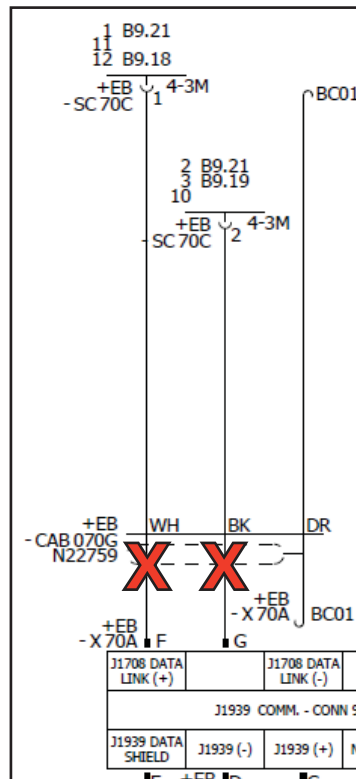

Figure 12 - Wires to be Cut and Insulated, and Sealing Plugs to be Installed on the +EB-X70A Connector
- 1.26. Install a 562288 sealing plug in positions F & G of the +EB-X70A connector. See Figure 12.
- 1.27. Cut the pins on the two removed wires (positions F & G of the +EB-X70A connector). See Figure 12.